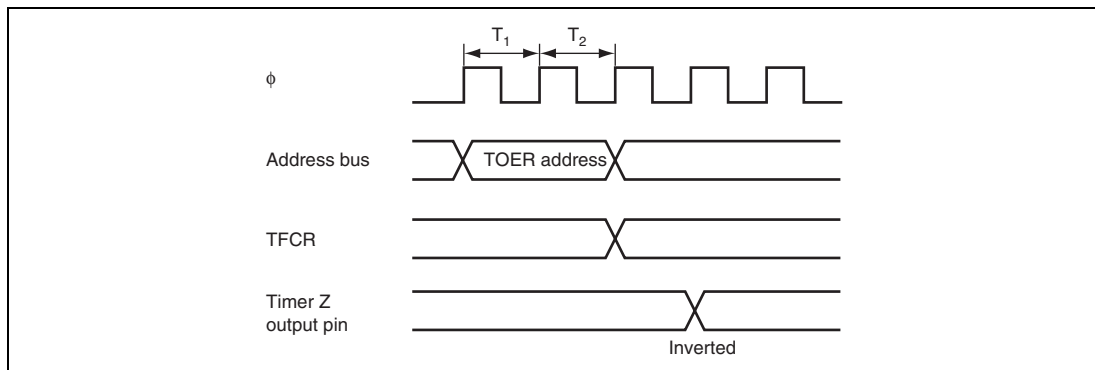

Figure 14.46 Example of Output Inverse Timing of Timer Z by Writing to TFCR
3. Output Inverse Timing by TFCR: The output level can be inverted by inverting the OLS1 and OLS0 bits in TFCR in reset synchronous PWM mode or complementary PWM mode. Figure 14.46 shows the timing.